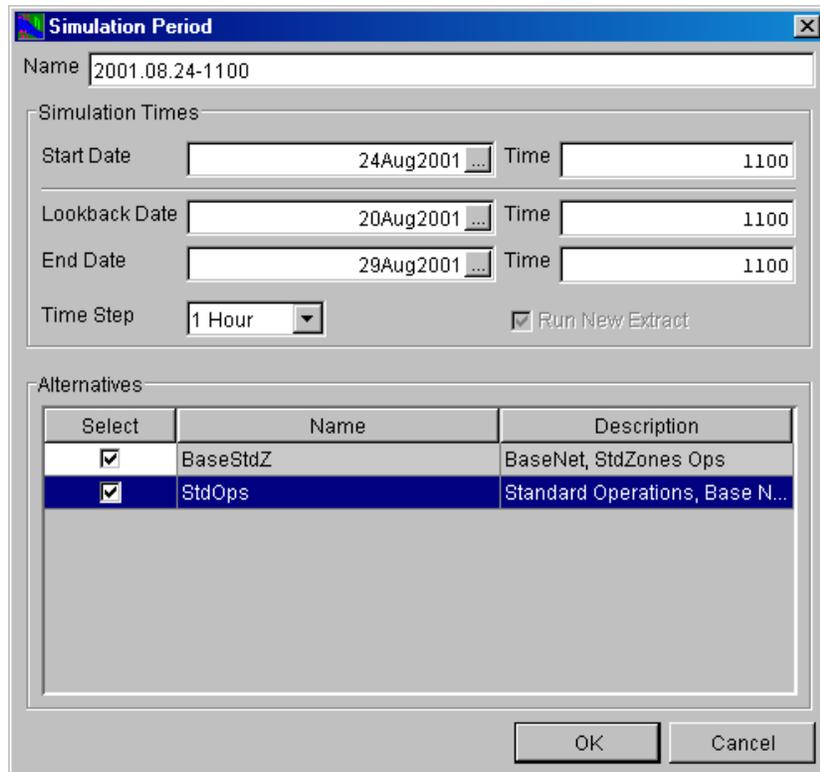

Figure 14.12 Simulation Period Dialog Box
2. The **Simulation Period** dialog box will open (Figure 14.12).
Once you have created a Simulation, you can use the **Simulation Period** dialog box (Figure 14.12) to edit the Lookback Date and Time, the End Date and Time, Time Step, and selected Alternatives. You cannot change the Start Date or Time.